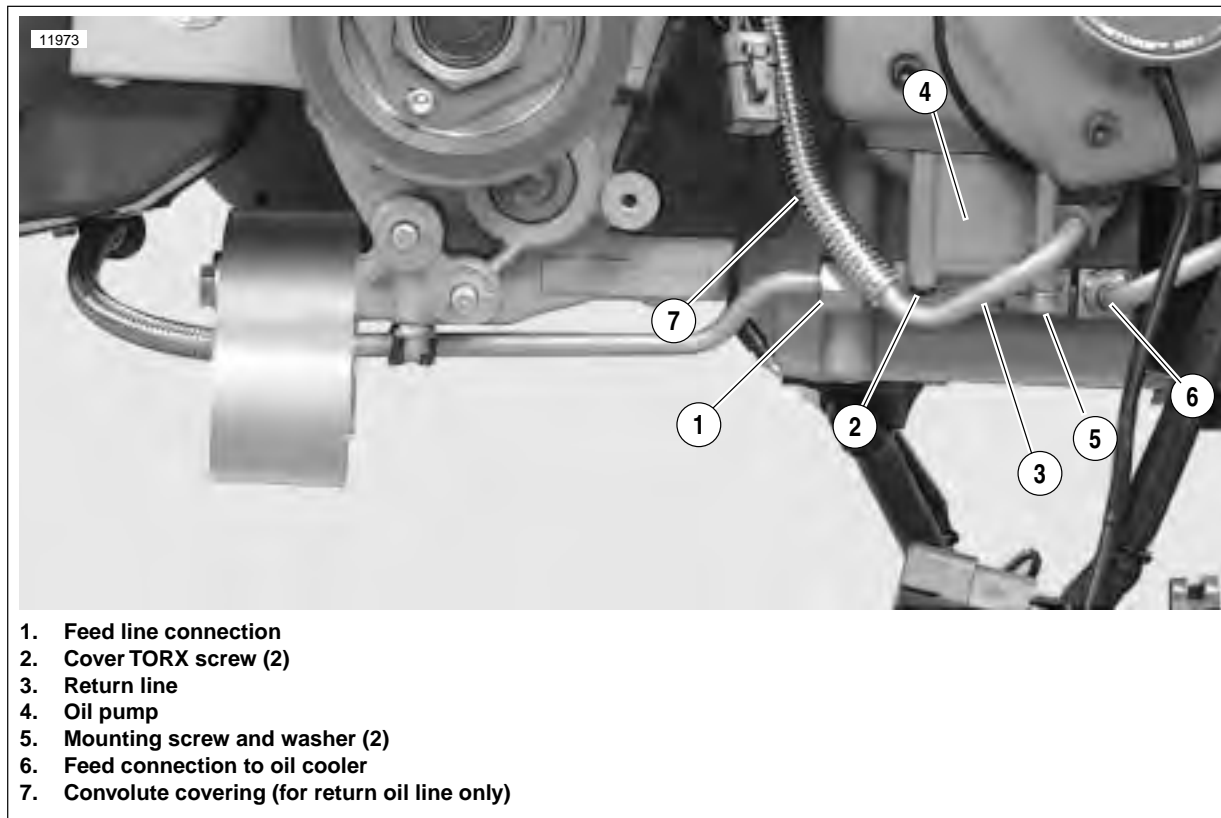

Figure 3-119. Oil Pump Hardware
4. See Figure 3-119. Disconnect feed line connections (1, 6) on both sides of the oil pump.
5. Detach return line connection (3).
6. Carefully remove mounting screws (5) and washers only. Pump will drop with screws removed. Discard mounting gasket.
7. Remove cover TORX screws (2). Lift cover off body.
10. See Figure 3-119. Attach return line connection (3) and tighten to 22-24 **ft-lbs** (29.8-32.5 Nm).
12. Tighten feed line connection (1) to 27-29 **ft-lbs** (36.6-39.3 Nm).
13. Tighten feed line connection (6) to 22-24 **ft-lbs** (29.8-32.5 Nm).